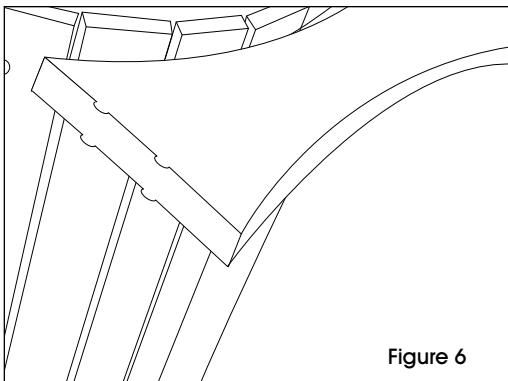

Figure 6
10. Place the curved portion of a connector against the slats on the upper ring. The center point of the connector should be in line with the center point of the ring. The holes for the mounting hardware in the slats should be at the mid point of the connector. (See Figure 6)